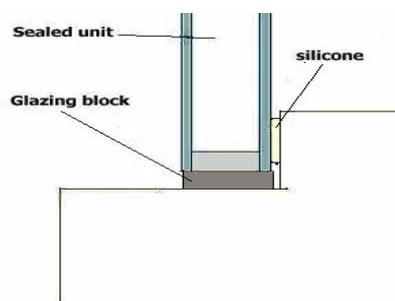

Fig 1.
3. Sit the unit on the glazing blocks and push gently against the back rebate and centralize, making sure not to push silicone out of the rebate. If using security glazing strip apply direct from the reel onto the correct surface of the unit (if using Low 'E' double glazed sealed units ensure that the Low 'E' surface is on the inside of the property) and press sufficiently along its whole length to achieve good initial adhesion. Remove backing paper and offer to the back rebate, push firmly to seal across the joint. There should be 3mm gap around between the unit edge and the timber, to allow for thermal movement and to prevent water from bridging between the rebate and the edge seal of the unit. (See Fig1)